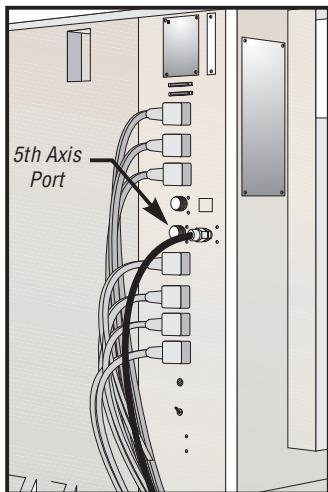

Figure 3.2 Fifth Axis port on the side of the VMC control cabinet
2. **Important!** Before installing the APC, ensure the VMC has been installed and leveled. Also make sure the APC jumper is installed in the "5th Axis" port on the side of the VMC control cabinet (see Figure 3.2).
21. Remove the jumper from the Fifth Axis (B) port on the side of the VMC control cabinet (see Figure 3.2), and insert the APC amphenol connector into this port. Tie-wrap the cable to the door switch cable and the air hoses at the rear of the VMC.